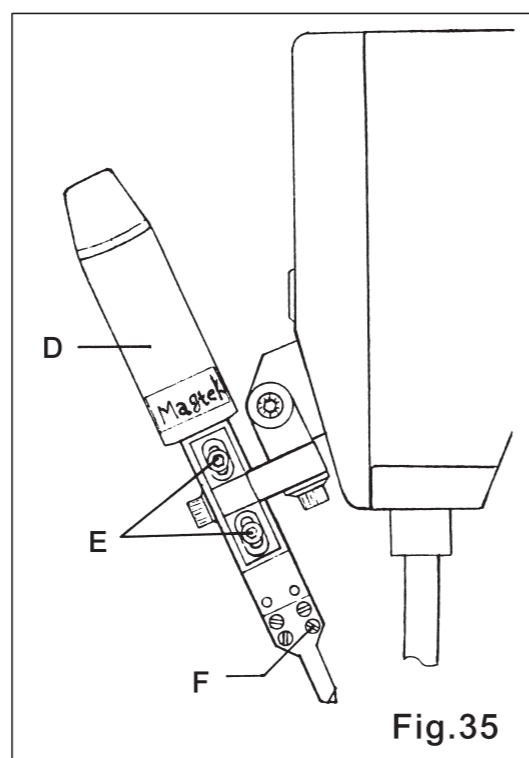

Fig.35
To loose the two screws (E) of Top Trimmer (D) then, to adjust up and down for top trimmer position. (Fig.35)
The pressure of Top Trimmer Moving & Fixing Knife which be adjusted via micro turn the screw (F) to get the suitable pressure. (Fig.35)